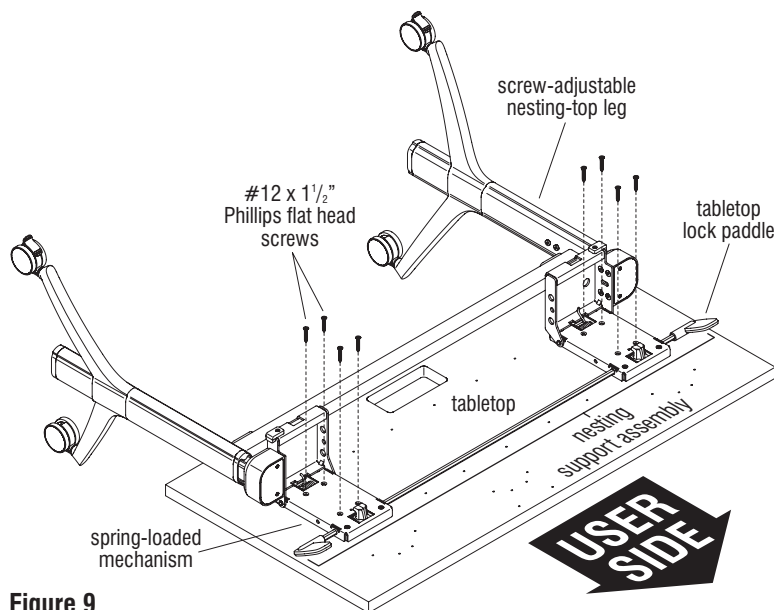

Figure 9
19. Press the tabletop lock paddles down and gently lower the screw-adjustable legs down to gain access to the center group of spring-loaded mechanism mounting holes (Figure 9).
20. With the four center mounting holes on each spring-loaded mechanism of the nesting support assembly aligned with the mounting holes on the tabletop underside, secure the mechanism to the tabletop using four #12 x 1 1/2" Phillips flat head screws per mechanism. Do not over-tighten (Figure 9 & Detail M).